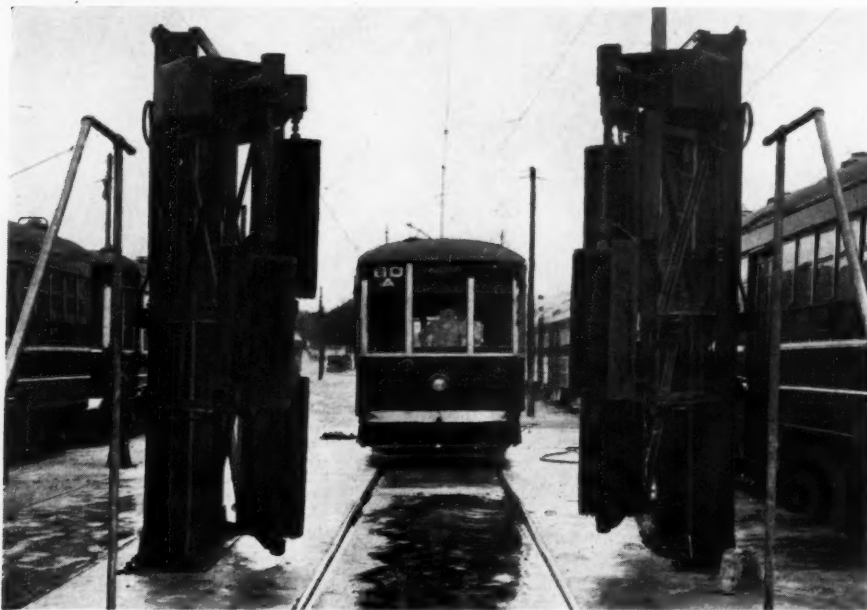

Fig. 8—Refining the street sweeper—a new trolley cleaner
**R**ESEMBLING the street cleaning machine to some extent in its operation, but with numerous refinements in design added such as automatic starting and stopping, the machine shown in Fig. 8 has been developed by Leeds, Tozer & Co., New York, for washing cars, etc.